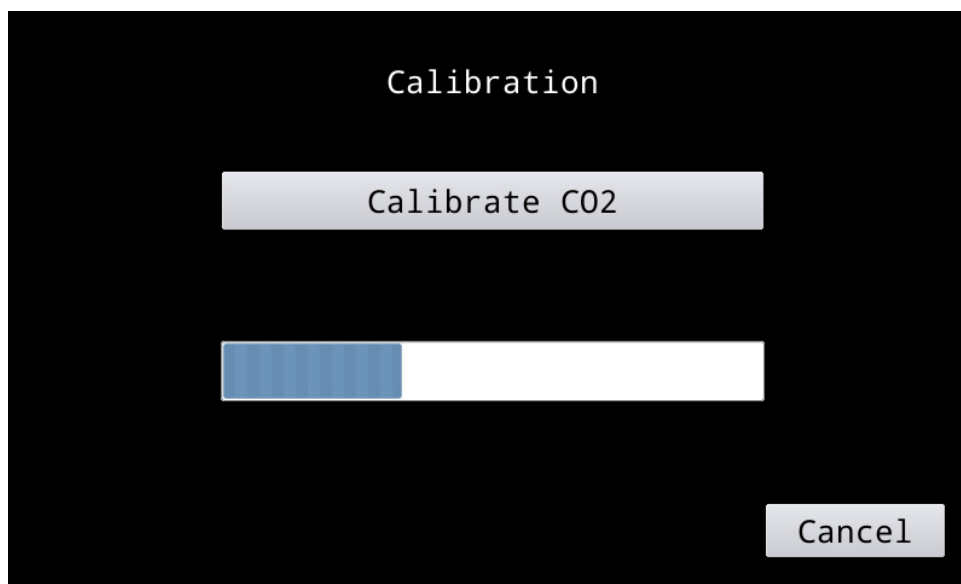

Figure 13. Calibration Screen
4. Press **Calibration**. Calibration screen (figure 13) displays.